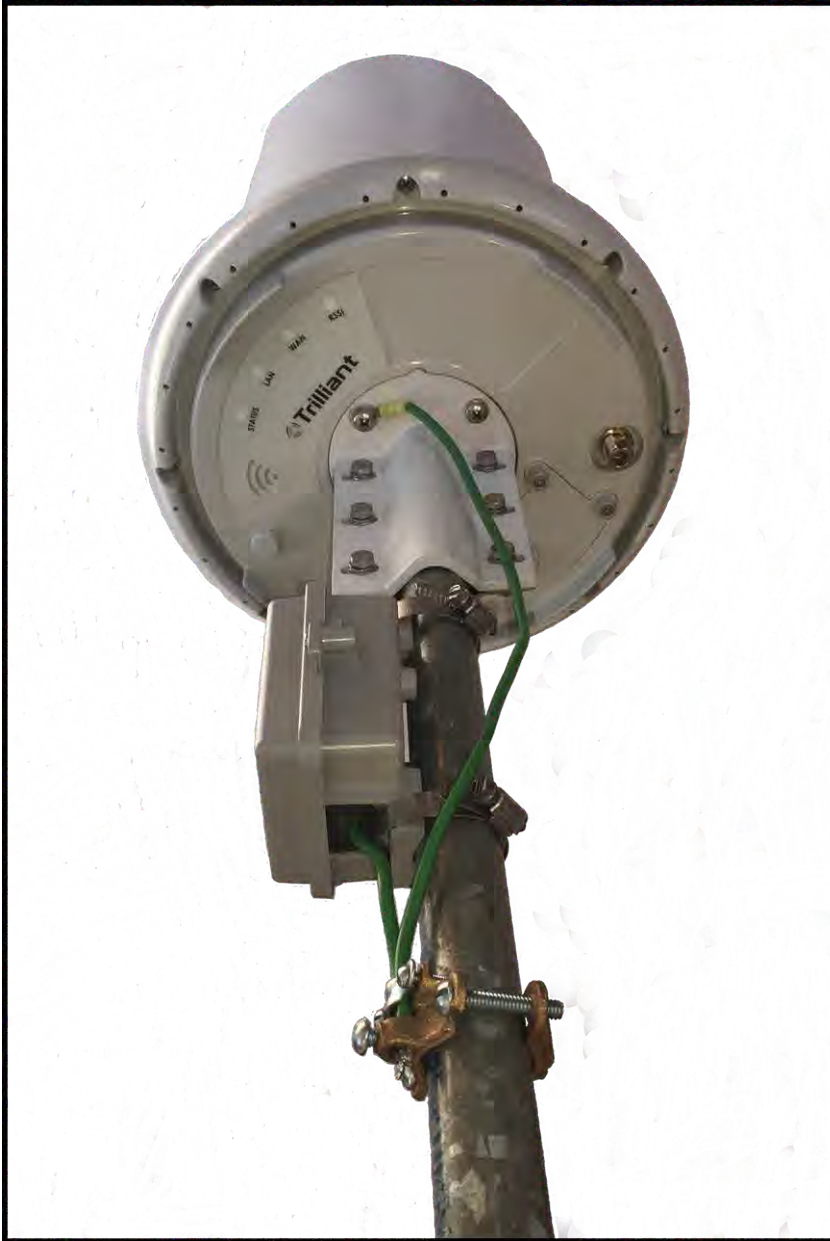

Figure 18: Ground wire attached to base enclosure
- b. If the ground wire end was stripped, attach the ground wire to the GATE-2000 at the same location and with the same hardware, but use the solderless grounding lug (see Figure 18).